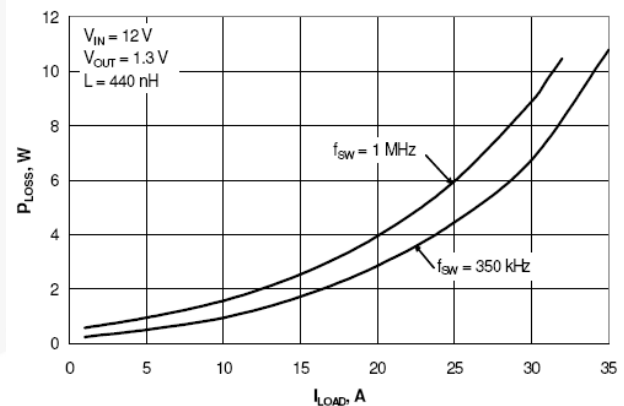
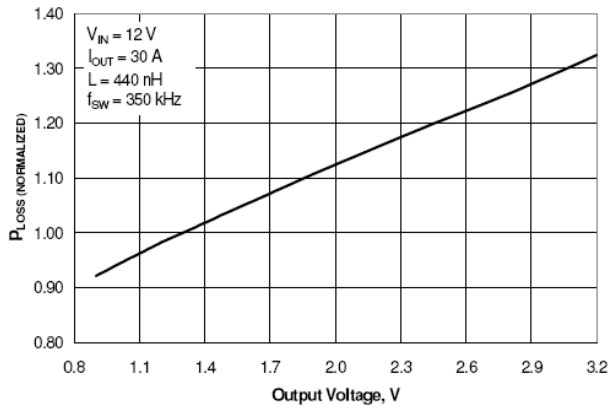

Figure 3. Module Power Loss vs. Iout
Figure 4. Normalized Module Ploss vs. Vout
The evaluation board total efficiency, SW node efficiency and module power loss are measured and calculated to represent DrMOS product performance in the datasheet. The FDMF6704 datasheet has several graphs which indicate module power loss, output current, normalized module power loss and each design parameter variations. Figure 3 shows an example of a graph in the datasheet for module power loss vs. output current.
Figure 3 represents a performance of FDMF6704 with particular parameter values, such as  $V_{IN}=12$  V,  $V_{OUT}=1.3$  V,  $L_{OUT}=440$  nH,  $F_{sw}=350$  kHz and output current from 0 to 35 A. This graph shows a performance under specific condition. In order to use the datasheet graphs easily in various system designs, normalized power loss graphs for each key parameter are included in the datasheet. In the Figure 4, power loss of the module is plotted with a normalized value according to the output voltage change. The reference value of module power loss for normalization is chosen as 1.3 Vout because this voltage is typical in a computing application, such as multi-phase VRD for Vcore. When the output voltage is 2 V, normalized module power loss will be around 1.13 times higher compared to 1.3 Vout.
- Find reference design parameter values and module power loss with Figure 3 → 6.8 W with 12 Vin, 5 Vcin, 1.3 Vout, 30 A, 350 kHz and 440 nH
- Find normalized value of module power loss with Figure 4 when Vout is 1.5 V → 1.04
- Find reference design parameter values and module power loss with Figure 3 → 4.6 W with 12 Vin, 5 Vcin, 1.3 Vout, 25 A, 350 kHz and 440 nH
- Ploss at 10 Vin, 5.5 Vcin and 2 Vout. Note Figure 4: